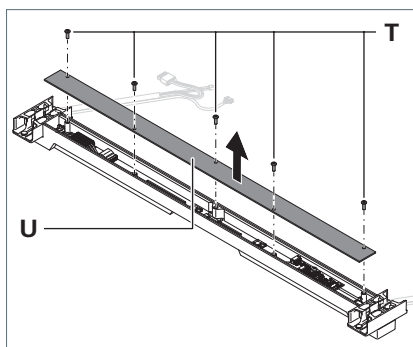

Fig. 6: Crossbar- removing the cover.
4. Unscrew the screws **T** from the cover **U**, see Fig. 6.